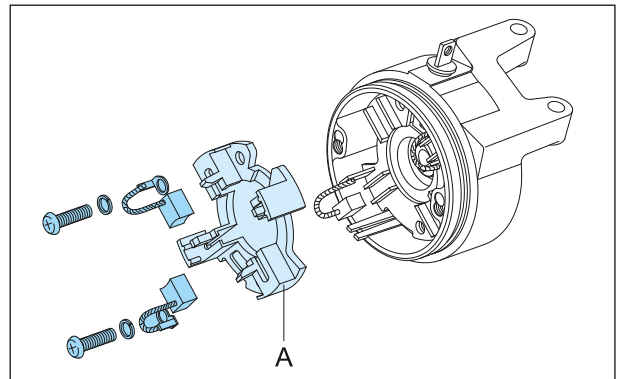

Fig. 6.44
- Remove the Brush box kit (A) from the CE bracket assembly as shown in fig. (Fig. 6.44)